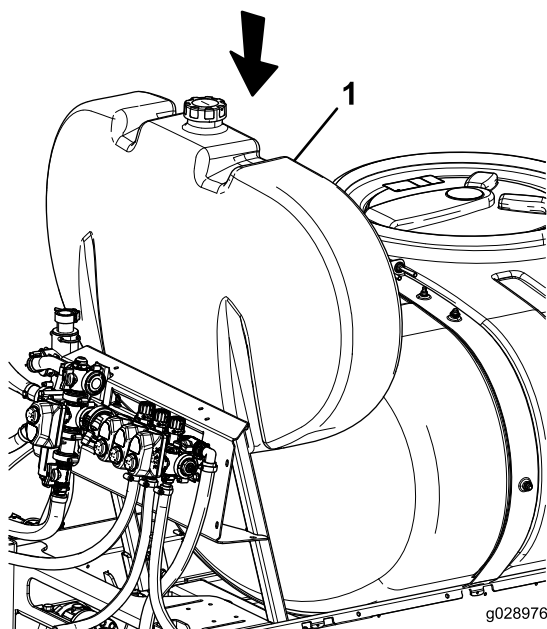

Figure 9
- Install the rinse-tank straps onto the rear tank straps with the hardware that you removed previously (Figure 9).
- Insert the rinse tank as shown in Figure 9.